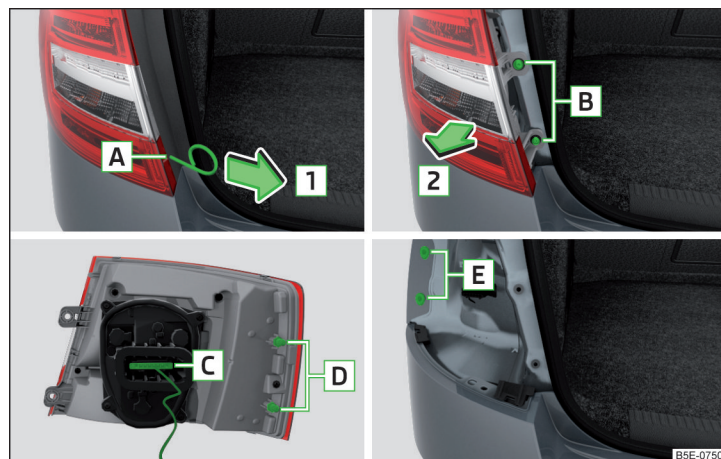

Fig. 353 Removing lamp
» Fig. 353.
- Insert the lamp with pins **D** » Fig. 353 into the recesses **E** in the body.